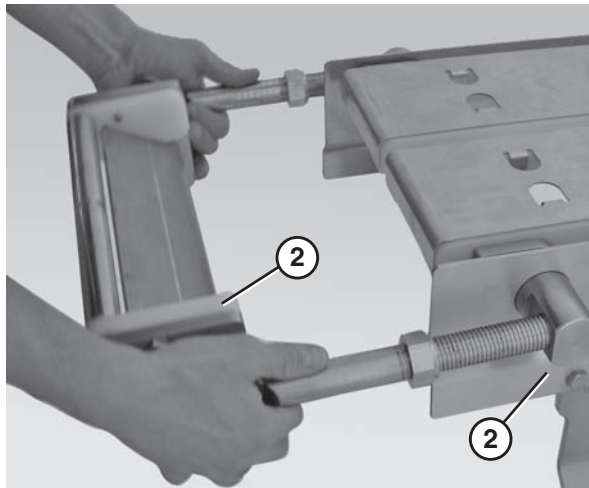

Figure 80
2. Slide the nose bar tail assembly (**Figure 80, item 1**) out of the take up blocks (**Figure 80, item 2**).